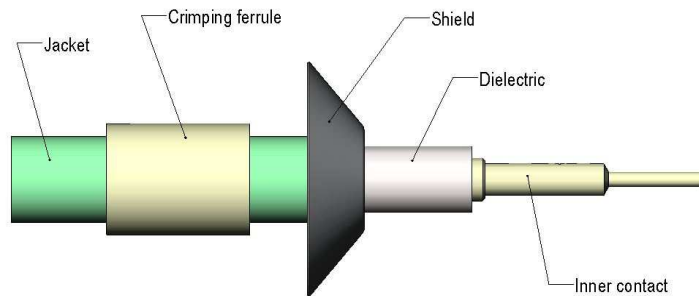

FIG 2
- Flare out the shield as shown in figure 2. Remove the metallic wrapped tape.